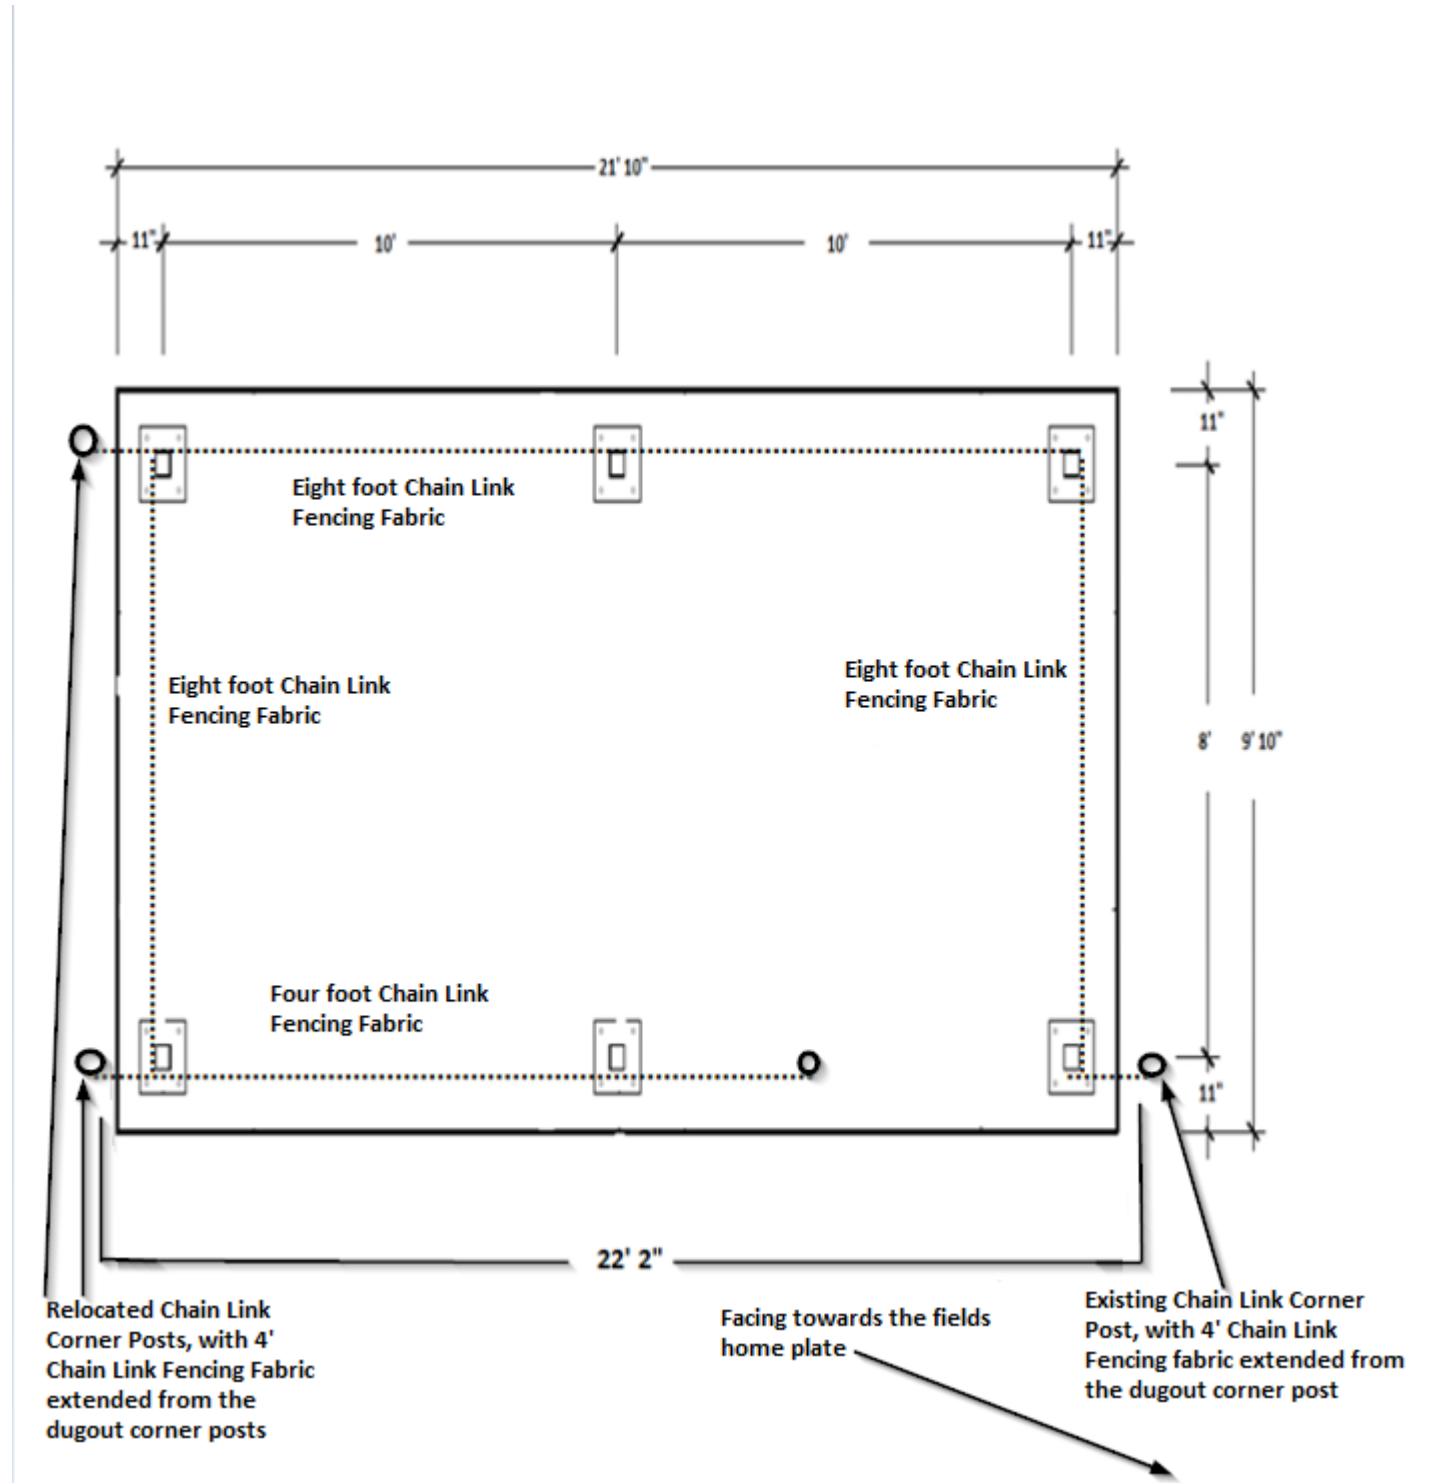

Figure 9: Existing Dugouts.
The existing dugouts are block walls with a wooden shingled roof. There is also a concrete floor within the dugouts. See figure 9. The existing dugouts and concrete flooring are to be demolished and removed from the site. All quotes are to reflect the complete replacement of each individual dugout location (see figure 1). There are eight individual dugouts. Each dugout replacement shall include demolishing of one current dugout, removal of all dugout concrete, removal of all demolished concrete, dugout material kit, dugout bench kit, installation of new concrete pads, installation of a new dugout, benches and installation of all dugout fencing. All work shall be scheduled with the Parks and Recreation department as not to interfere with scheduled use of the fields. The City of Havelock shall reserve the right to accept any, all or none of the dugouts to be removed and replaced.
- a. The existing dugout is an 8' X 20' concrete block structure sitting on a 4" thick concrete slab. See figure 9. Any concrete slab outside of the dugouts but attached to the dugout concrete slab is to be demolished and disposed of in accordance with all state and federal regulations.